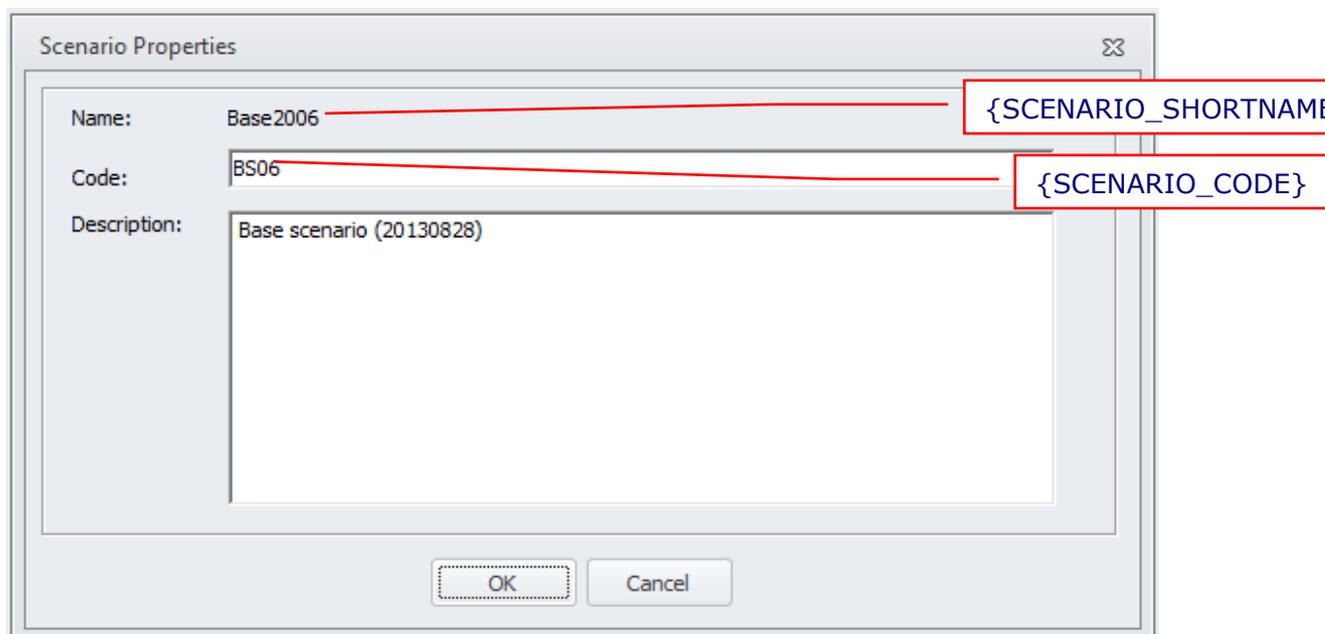

Figure 10 Set {SCENARIO_SHORTNAME} and {SCENARIO_CODE} in “Scenario Properties”.
- {SCENARIO_CODE}, {SCENARIO_SHORTNAME} are defined in the Scenario Properties, see Figure 10 below